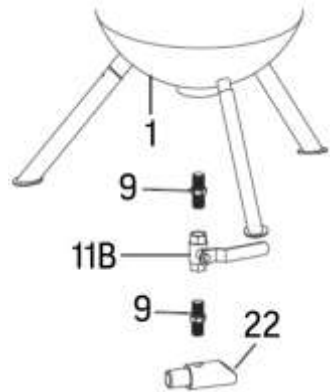

Fig. 4
7. Assemble one end of the nipple connector into the abrasive outlet pipe (#22) and the other end into the abrasive valve (#11B) (Fig. 4).